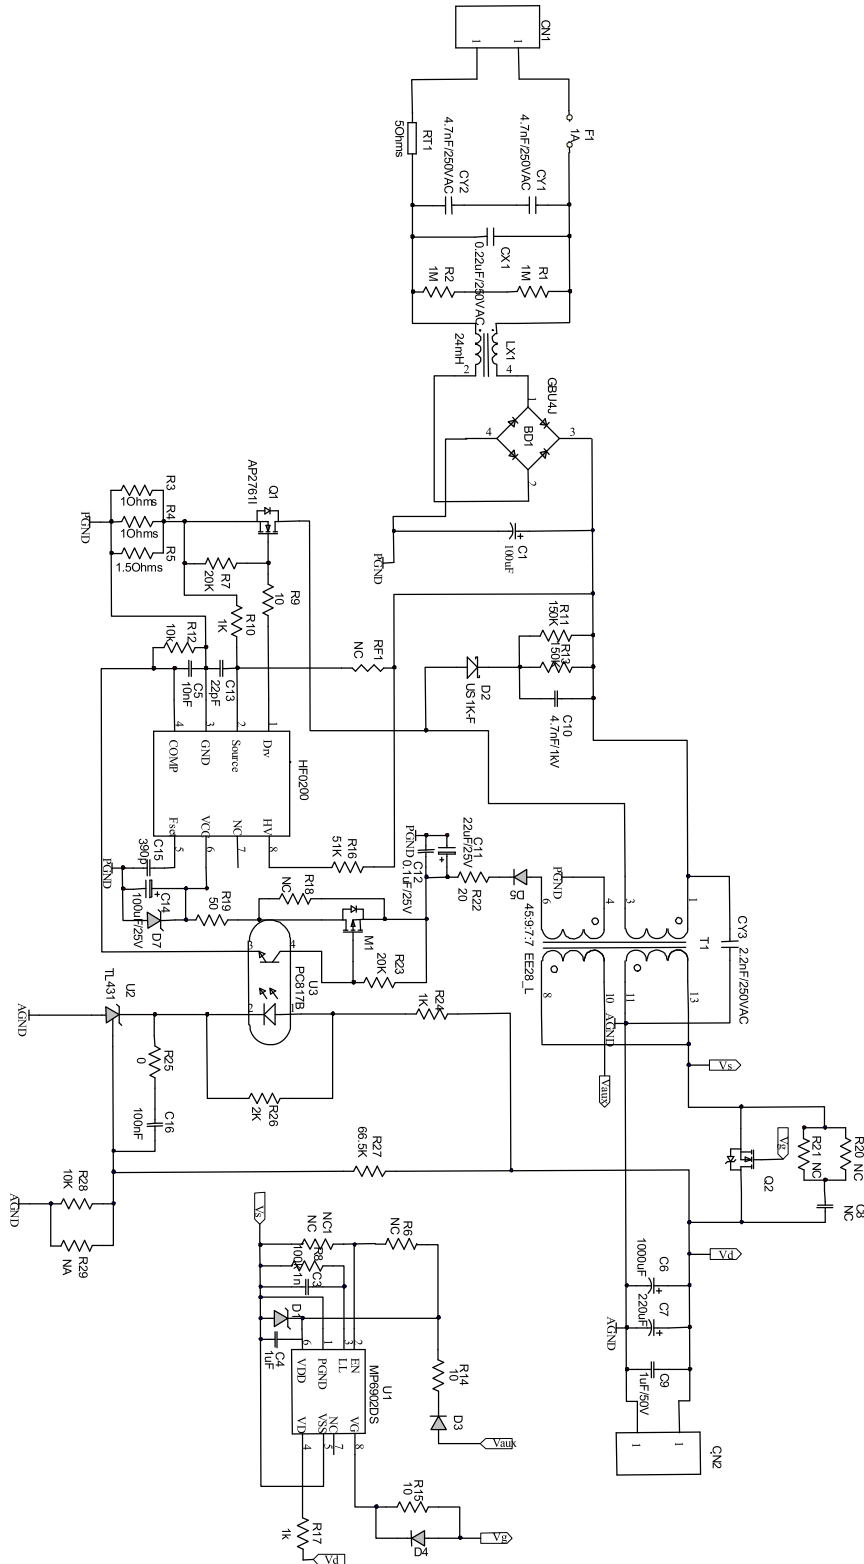

Figure 13—MP6902 for Secondary Synchronous Controller in 90W Flyback Application
7) See Figure 13 for the test circuit.